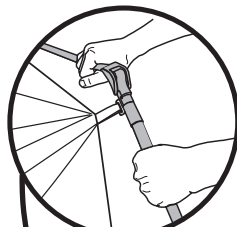

Fig. 4
- Fold the arm joints located at each of the tent corners. (Fig. 4)